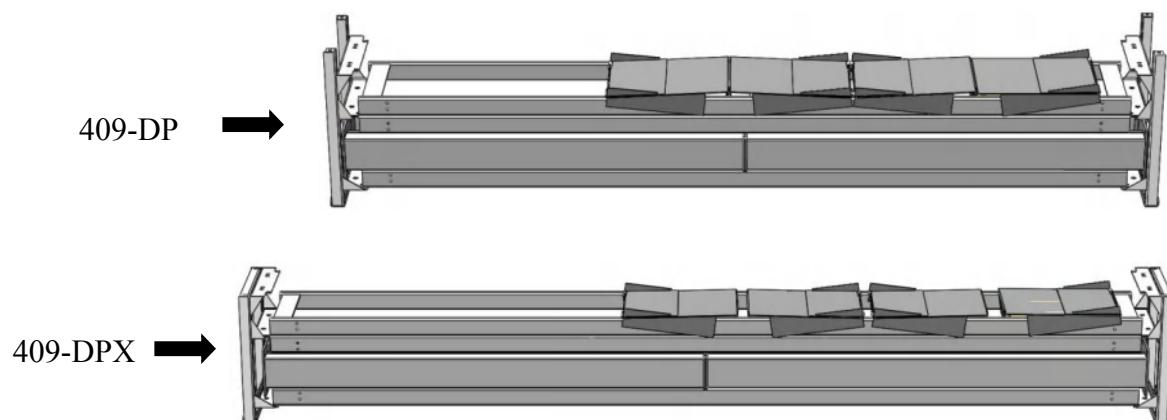

Fig. 10
3. Loosen the upper bolts of the package bracket, take out the upper cross beam(409-DP),take out the offside platform on the top. (**See Fig. 10**)